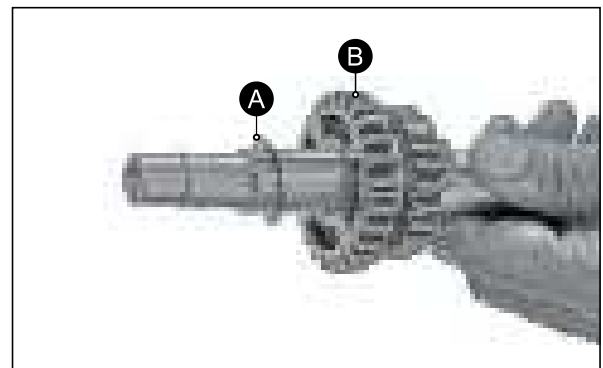

Fig. 3.171
- Take out the shim (A). (Fig. 3.171)
- Take out the gear 3rd driven (B). (Fig. 3.171)